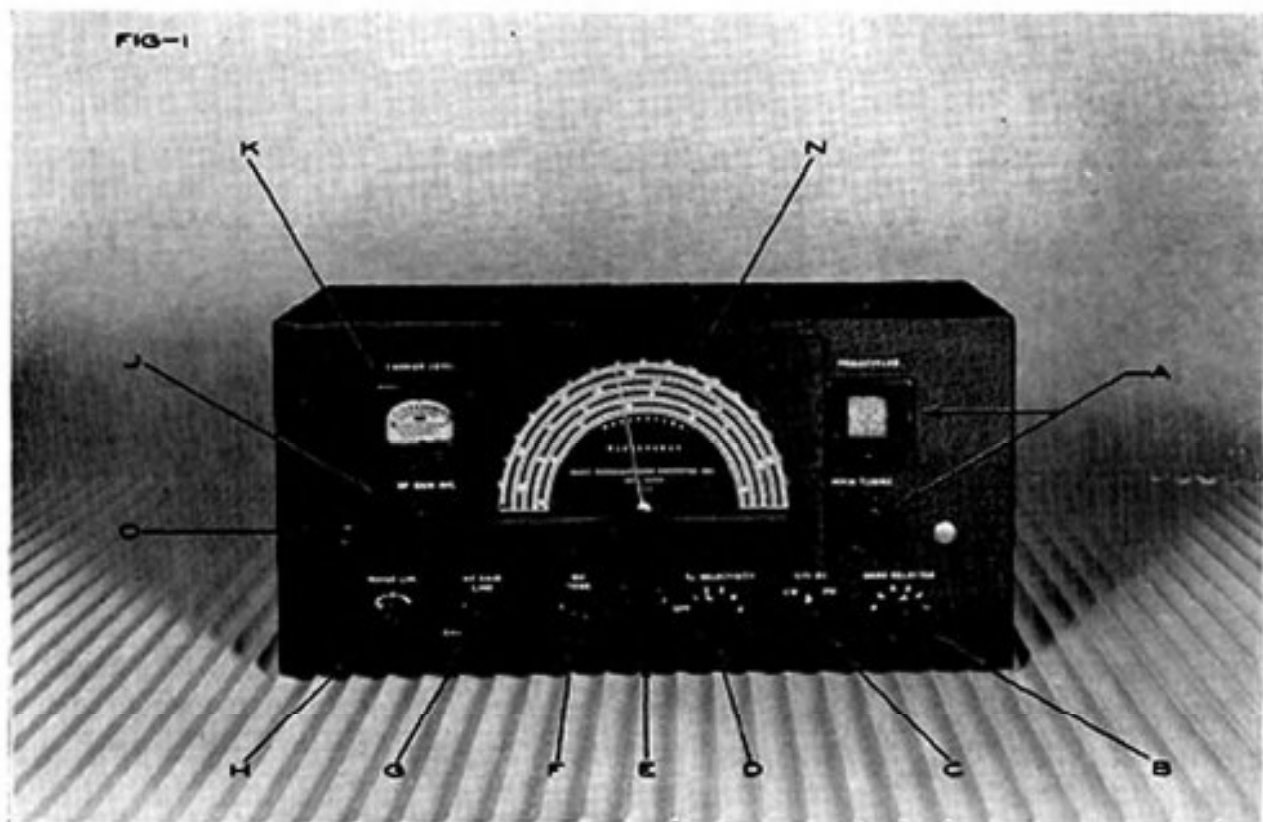

Fig. 1 — Front View
After the operator has made certain that the tubes are well seated in their sockets and in good condition mechanically, and the speaker has been inserted in its respective socket and the antenna terminals connected up properly to the type of antenna which it is desired to use, the control marked AF GAIN LINE ("G" Figure 1) should be set to the maximum counterclockwise position which is the "off" position insofar as the power to the receiver is concerned.
Before turning on the set for the first time it will be well to set the various controls as follows: Referring to Figure 1 the Band Selector (B) is turned to position 1; Stand-by switch (C) in center position; Xtal Selectivity (D) to "off"; and RF Gain-VC (J) to maximum clockwise position until the switch clicks. The function and operation of the various controls will be discussed in detail later on.
The main tuning control and scale ("A" Figure 1) is used for most of tuning except when using the band spread scale. The tuning knob is connected to the tuning condenser by a planetary drive and a set of pre-loaded gears. This system allows smoother control with back-lash reduced to a negligible amount. The scale is very accurately calibrated on all six bands and is divided into convenient divisions between the cardinal points for accurate reading. The scale is calibrated on all bands in megacycles. That is, 1000 kilocycles.